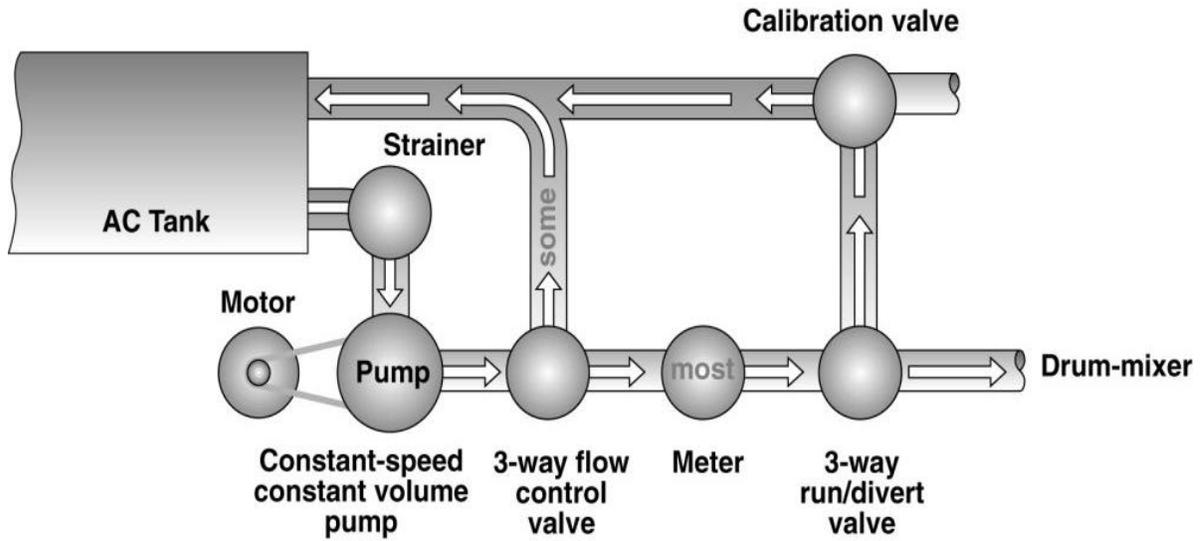

Figure 4.25 Asphalt metering system for drum-mixer plants with constant speed constant volume pump and flow control valve.
- A constant-volume, constant-speed pump with a separate flow control valve. The asphalt flow control is accomplished by varying the flow control valve as shown in figure 4.25.